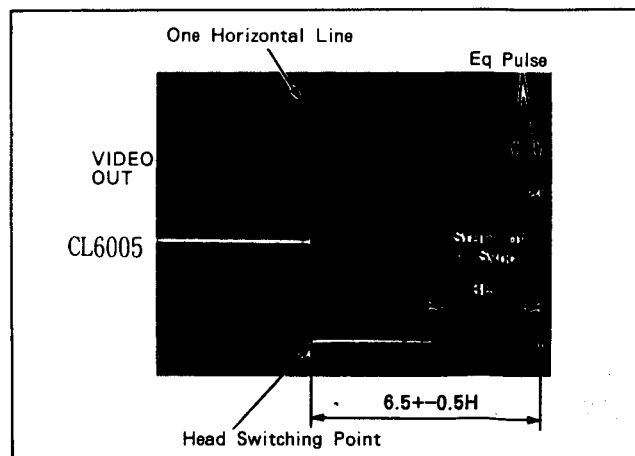

Fig.C19-2
8. Take a note "PG" value. (See Fig.C19-2)
10. \* (CMD), (1), (2).